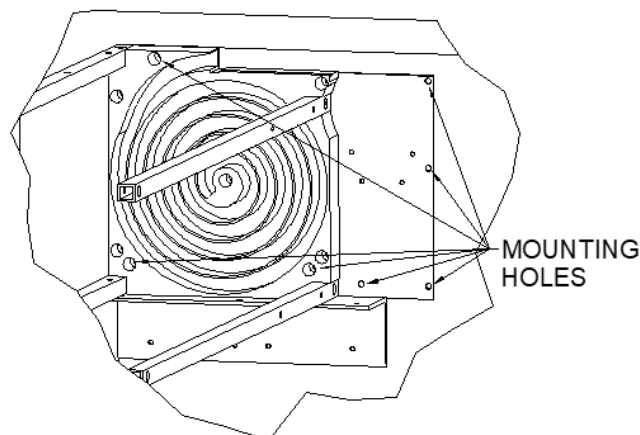

Fig. 2 – Mounting Holes
- c. Attach each side with a minimum of four 1/4" fasteners in mounting holes see *Fig 2*.